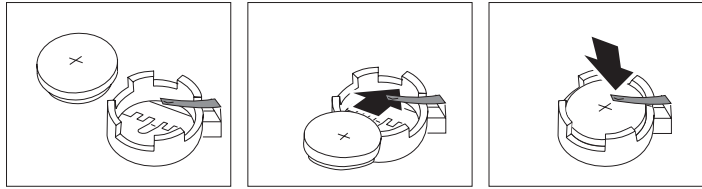

Figure 141. Replacing the SAN Volume Controller 2145-4F2 system board CMOS battery
- As you slide it under the battery clip, press the battery down into the socket, as shown in Figure 141.